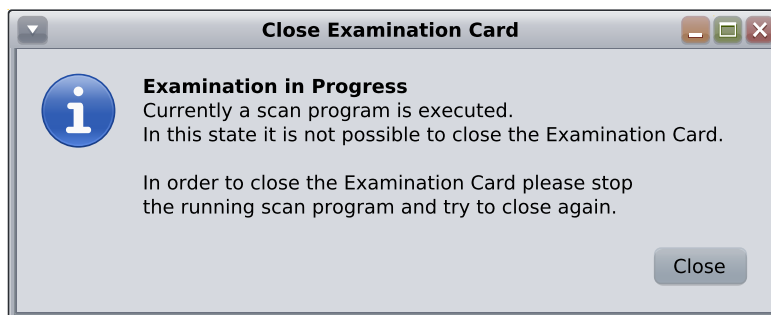

Figure 1.4: Dialog Examination In Progress
- The Examination Card cannot be closed, if an acquisition is still running. An information dialog (see [Figure 1.4 \[▶ 29\]](#)) is shown in this case.